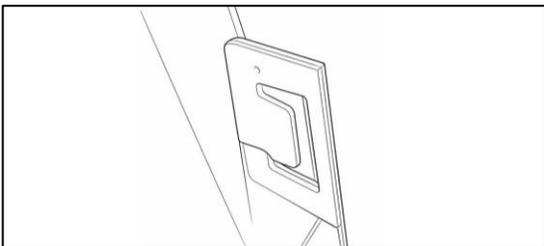

Figure 2: Grille Tab
3.  Pull the grille away from the bumper, the grille has tabs in 6 locations that must be unclipped. Once the tabs have been released, the grille can be removed. **See Figure 2.**